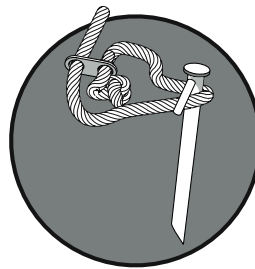

fig.2
- Thread the end of the rope through the remaining hole in the slider and tie a knot to secure. To work properly, the rope must enter slider from the same side each time- as illustrated. Repeat with remaining guy ropes and sliders. See fig.2.